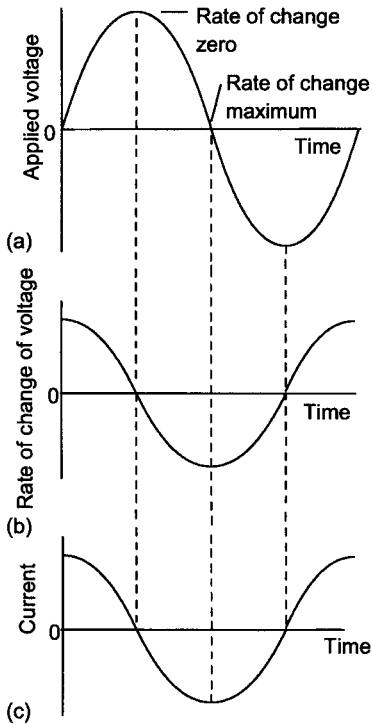
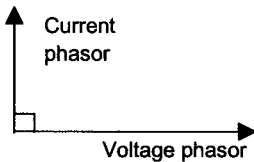
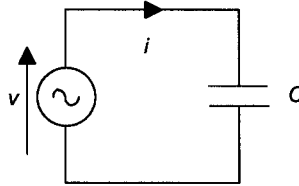

Figure 17.11 Voltage and current with pure capacitance
Figure 17.12 Phasors for pure capacitance
Figure 17.10 Circuit with only capacitance
Consider a circuit having just *pure capacitance* (Figure 17.10) with a sinusoidal voltage $v = V_m \sin \omega t$ being applied across it (Figure 17.11(a)). A pure capacitance is one which has only capacitance and no resistance or inductance.
i.e. $i = C dv/dt$. The current is proportional to the rate of change of voltage with time and is thus proportional to the gradient of the voltage–time graph. Figure 17.11(b) shows how the gradient of the voltage–time graph varies with time. Thus Figure 17.11(c) shows how the current varies with time. As the graphs indicate, the current leads the voltage by 90° and Figure 17.12 shows the phasors.